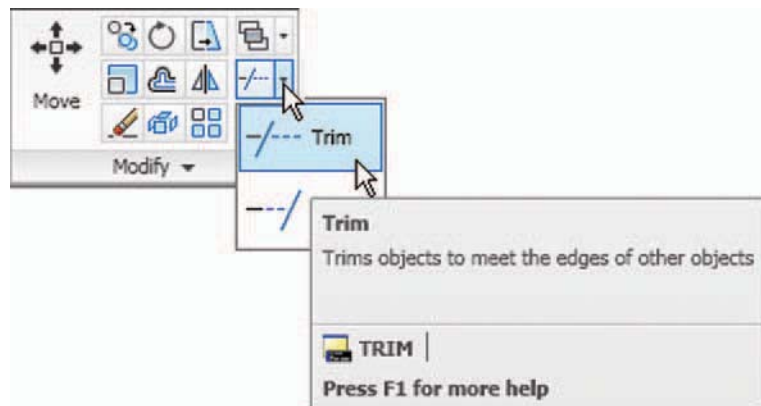

Fig. 5.30 The **Trim** tool icon from the **Modify** toolbar in the **Home/Modify** panel
2. Call **Trim** – either *left-click* on its tool icon in the **Home/Modify** panel (Fig. 5.30), *pick* its tool icon in the **Modify** toolbar, *pick Trim* from the **Modify** drop-down menu, or *enter tr* or *trim* at the command line, which then shows: